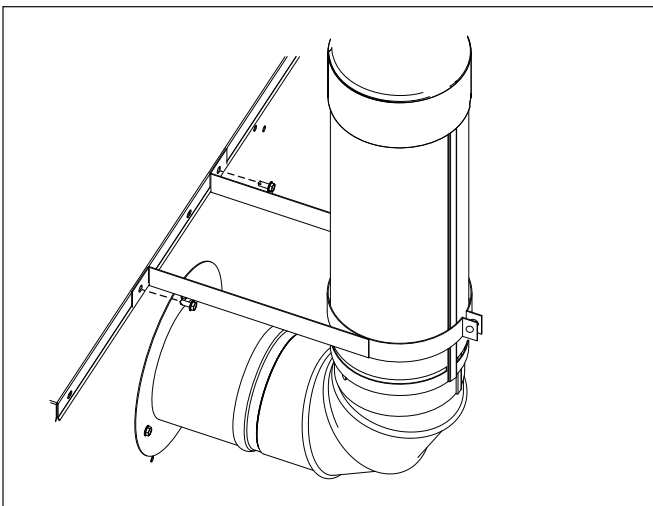

Figure 6. Support Bracket Attachment
9. Fasten the flue support bracket to top lip of the unit using two self drilling screws. Take care in this portion of the installation to ensure that the flue body is properly supported so as to not put any unintentional stress or strain on the assembly or bracket. See Figure 6 for installation location.